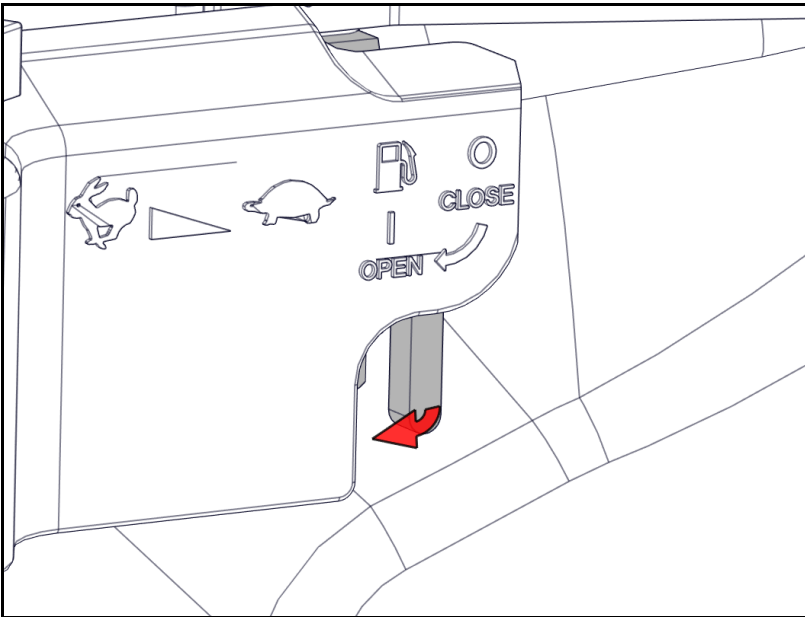

Figure 19 – Fuel switch
- 8) Ensure the fuel switch is in the "OPEN" position (Figure 19).